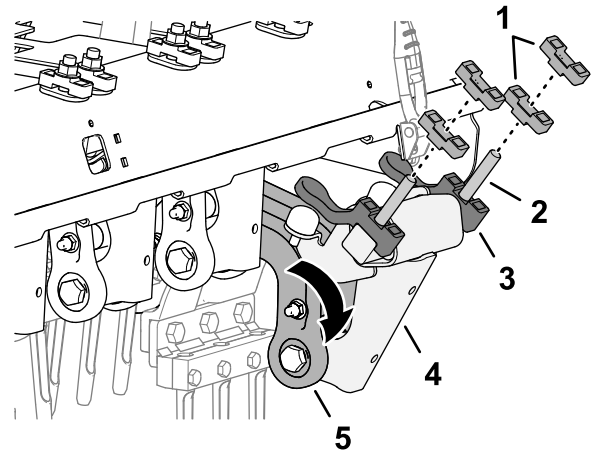

Figure 133
3. Rotate the dampener link and dampener shaft down (Figure 133).